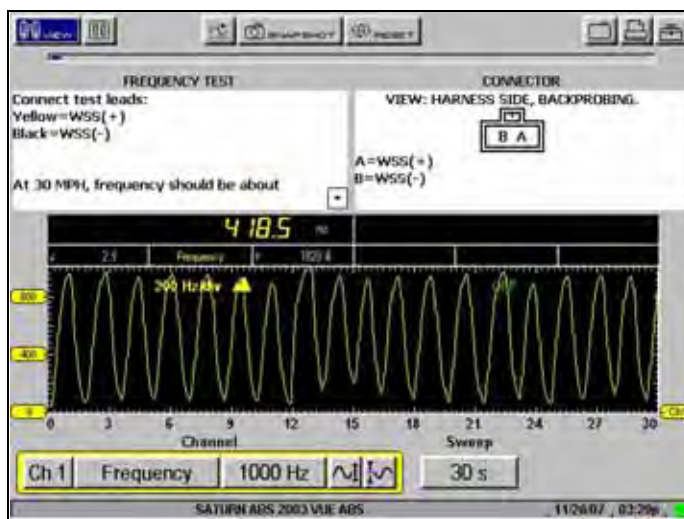

Figure 4-16 Sample test results
5. View and verify the test results as explained on-screen (Figure 4-16).